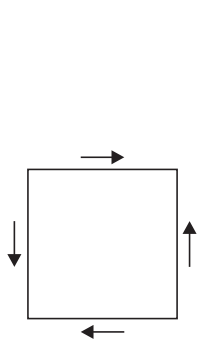
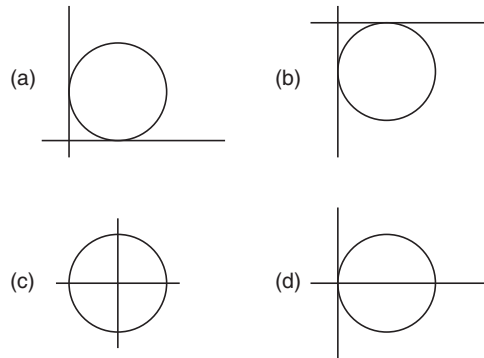

FIGURE 8.33
FIGURE 8.34
27. State of stress in plane element is shown in Fig. 8.33. Which one of the following figures shown in Fig. 8.34 is the correct sketch of Mohr's circle of the state of stress ?